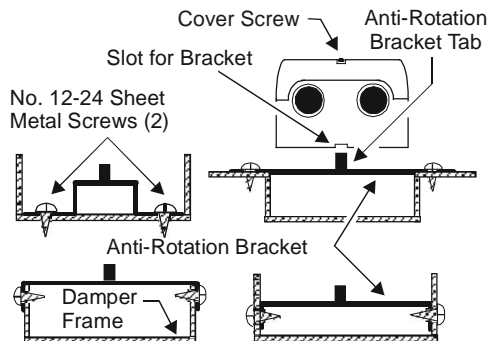

Figure 2: Anti-Rotation Bracket Positions
- Bend or cut the anti-rotation bracket to fit the damper frame or duct as shown in Figure 2.
- Insert the anti-rotation bracket tab into the slot at the bottom of the actuator (shown in Figure 2), and slide the actuator onto the shaft.